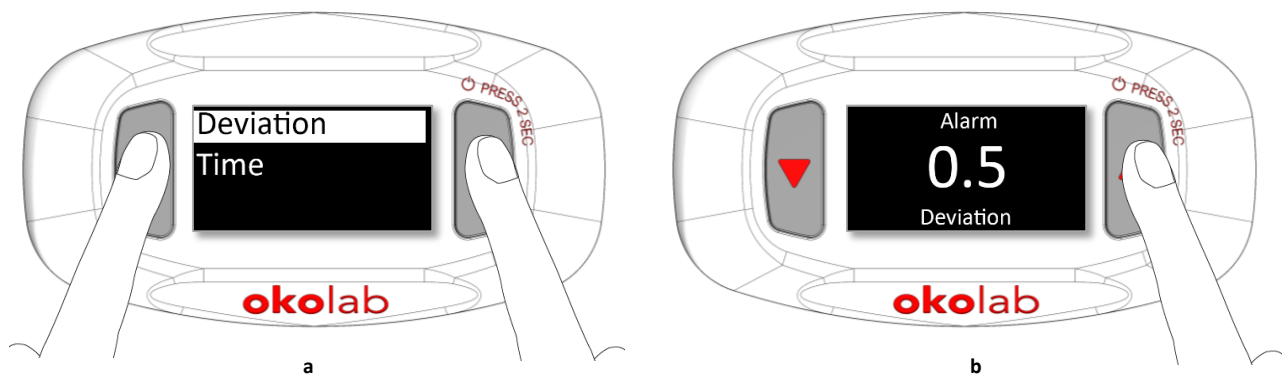

Figure 25. Deviation value setting (a - b).
2. Press UP & DOWN buttons at the same time for 1 second to enter the *Deviation* Page (see Figure 25 a), use the UP or DOWN button to change the deviation value (see Figure 25 b). Confirm by pressing again UP & DOWN buttons at the same time for 1 second.